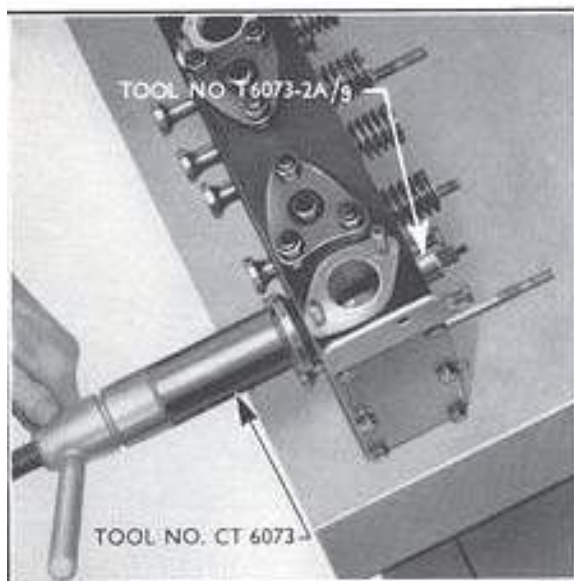

Fig. 6
On engines produced before tractor engine No. 1473070 the vertical location of the guide was determined by a machined stop on the outer diameter of the guide. After engine No. 1473070 the valve guides were manufactured with a parallel O.D. and to ensure the correct guide protrusion of 0.384 in. (14.83 mm.) to 0.594 in. (23.09 mm.) a replacer stop T.6073-2A g is used in conjunction with the main tool CT.6073 to replace the guides (see Fig. 6).
3. Turn the wing nut to pull the guide into the head (see Fig. 6), and continue until the replacer stop T.6073-2A g is tight against the cylinder head.